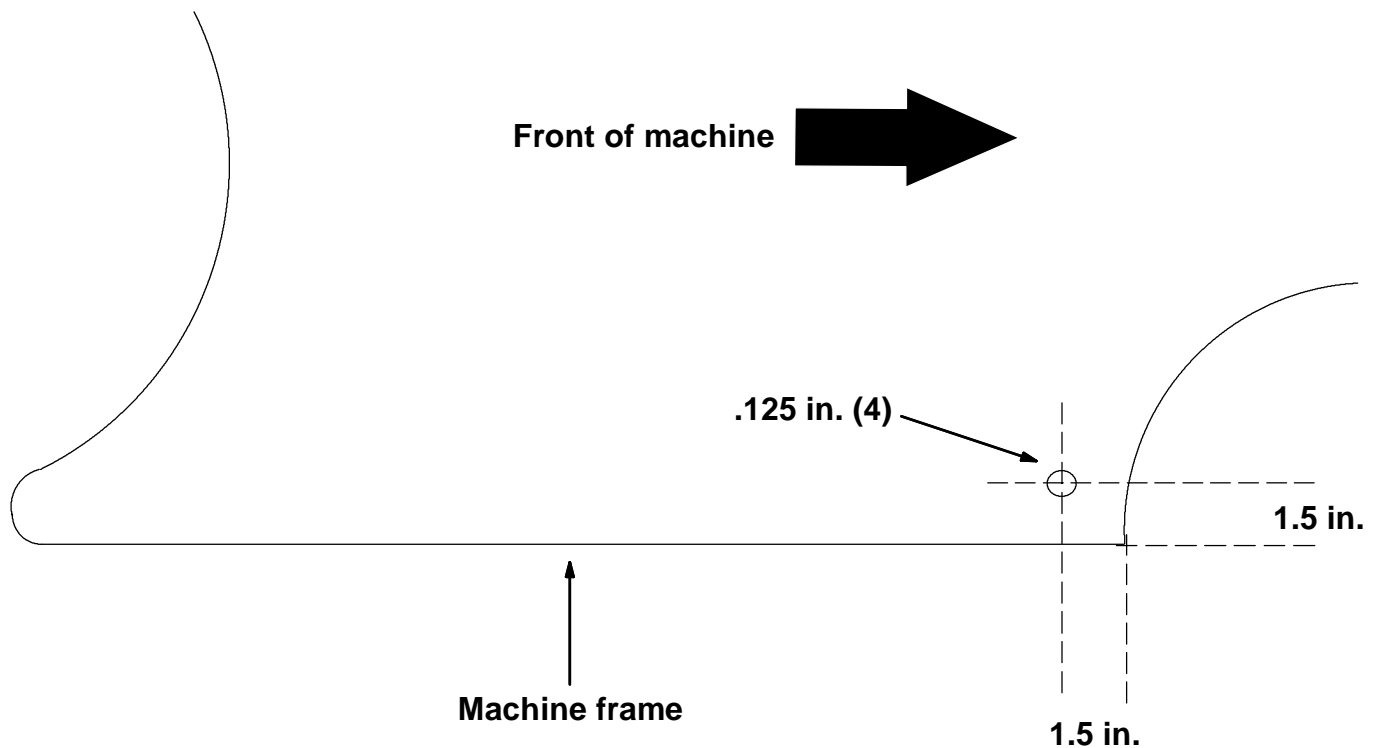

FIG. 2 - Wide Track Wheel Assembly
17. Use the dimensions in FIG. 2 to mark and drill the first 1/8 in. mount hole for the right (2) and left (3) wheel guards. Use the wheel guards as a template to mark the remaining three mount holes. Drill these to 1/8 in. also. (Refer to FIG. 2)
NOTE: Make sure the wheel guard is oriented in such a way where the front edge is lined up with the front edge of the machine frame near the area of the caster and the rear edge clears the rear wheel assembly. (Refer to FIG. 2)
18. Use the lag screws (4) and washers (5) to mount the wheel guards. **DO NOT** over-tighten the lag screws (4) when screwing them into the plastic frame. (Refer to FIG. 2 and 4)